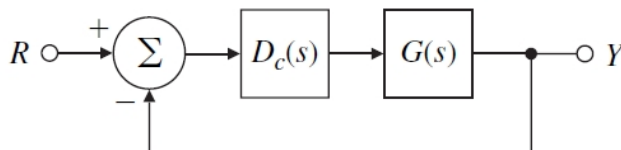

Figure 5: Unity feedback system.
where the roots of the numerator  $b(s)$  are shown as small circles  $\circ$  and the roots of the denominator  $a(s)$  are shown as  $x$ 's on the  $s$ -plane. Note that in Fig. 5(c) there are two poles at the origin; there are two poles on the imaginary axis in (f), slightly off the real axis.
**Problem 6.** Suppose the unity feedback system of Fig. 5 has an open-loop plant given by  $G(s) = \frac{1}{s^2}$ . Design a lead compensation  $D_c(s) = K \frac{s+z}{s+p}$  to be added in series with the plant so that the dominant poles of the closed-loop system are located at  $s = -2 \pm 2j$ , and the other pole of the closed-loop system is located at  $s = -a$ .
**Problem 7.** [MATLAB] Assume that the unity feedback system of Fig. 5 has the open-loop plant